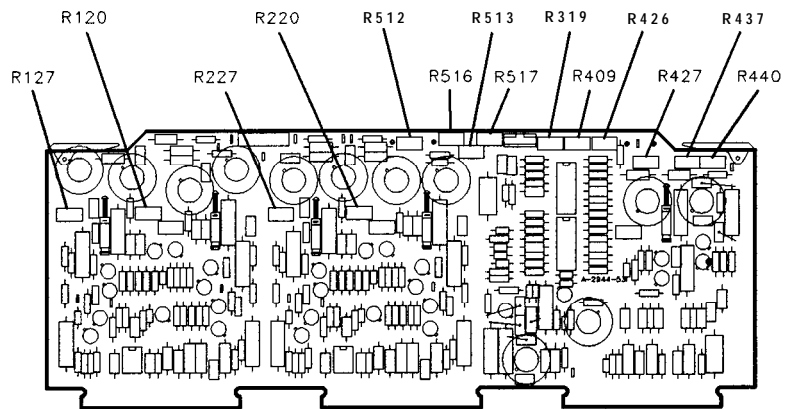

Figure 3-32. Location of Final Display Adjustments on A1A2
3. With the spectrum analyzer LINE switch set to STANDBY, set the potentiometers listed in the Table 3-6 as indicated. See Figure 3-32 for the location of the adjustments.
5. Set the front panel INTENSITY control fully counterclockwise and adjust A1A2R516 INT LIM until the display is just visible. See Figure 3-32.